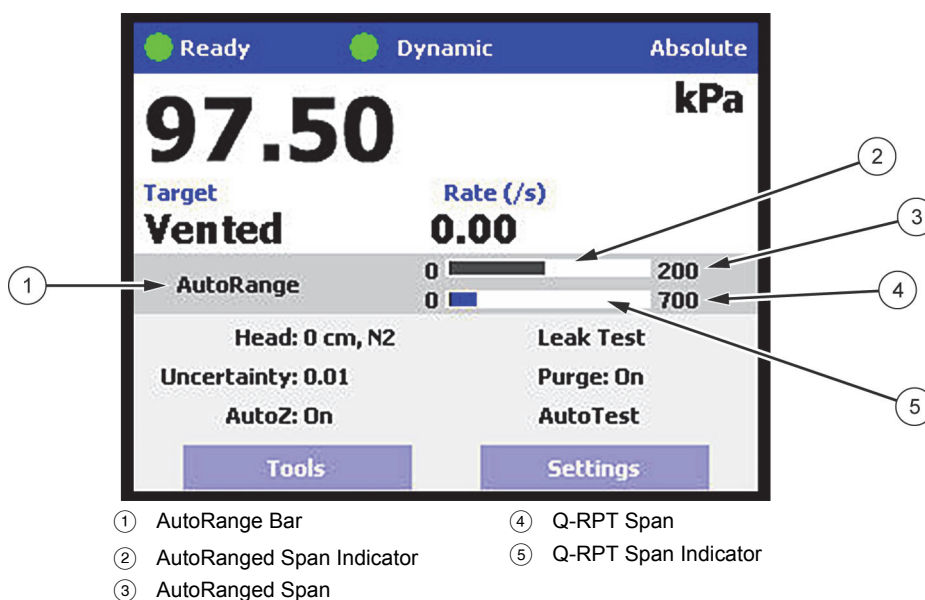

Figure 14. AutoRange Bar
- To verify or confirm the range from the Main Run Screen, use [AutoRange] from the Main Run Screen and view the **Range** field to view the active range (see Section 3.2.8) or view the AutoRange and active Q-RPT spans and indicators from the AutoRanger bar on the main run screen (see Figure 14).
The AutoRange Bar in the middle of the PPC4 Main Run Screen displays the range and a graphical indicator of the measured pressure within the range for both the active AutoRanged Range and the active Q-RPT (see Figure 14, showing a 200 kPa AutoRanged Span on a 700 kPa Q-RPT).